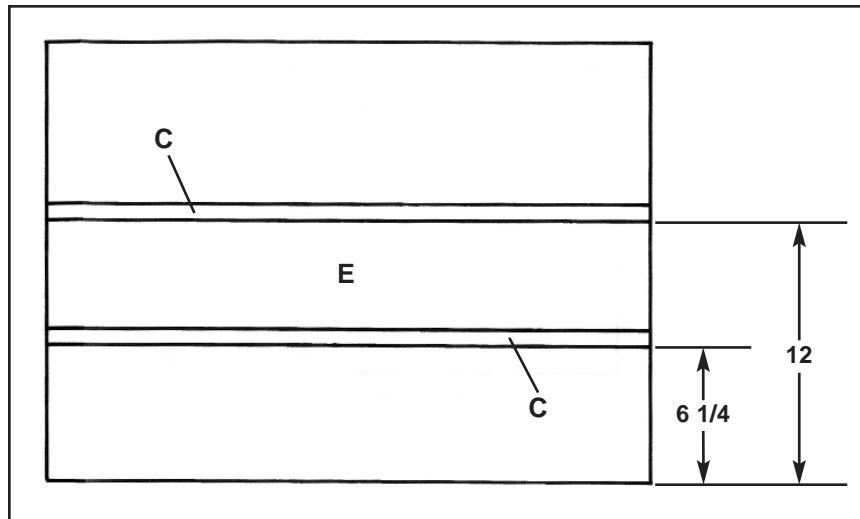

Figure 3
2. Use 1 1/2" finish nails and glue to attach boards C to E. Make sure that the boards line up square. Refer to isometric and Figure 3 for location.